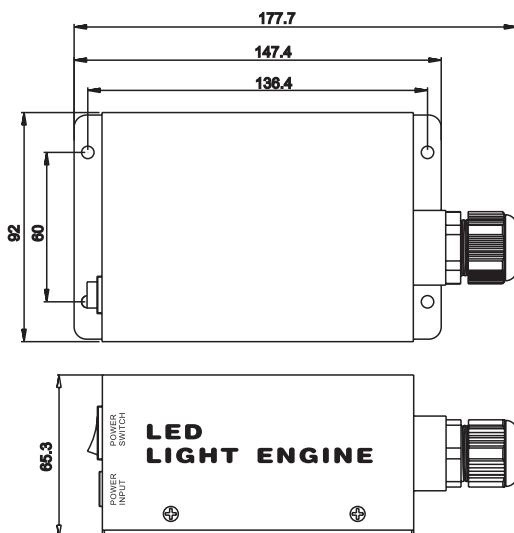

Fig 1
1. The installation dimension of the LED Light Engine (see Fig. 1)